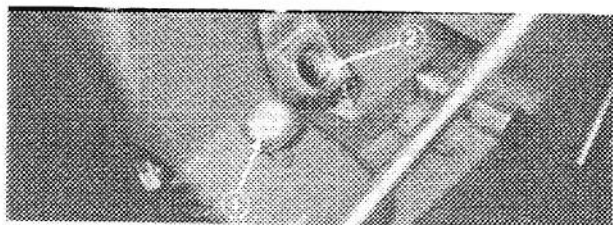

Figure 14
2. Clean the area around the oil filler plug so foreign matter cannot enter filler hole when plug is removed (Fig. 14).
3. Remove filler plug from crankcase (Fig. 14).
4. Slowly, pour 21 ounces (0.621 l) of SAE 5W 30 or SAE 10 oil into the filler hole (Fig. 14). The engine uses any high-quality detergent oil having the American Petroleum Institute — API — “service classification” SC, SD, or SE.